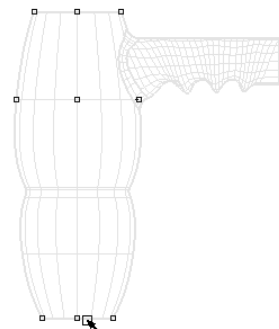

Figure 11-83 Curve to be selected as modifier
4. Select the required curve, as shown in Figure 11-83; the **Accept Modifiers** button is activated.